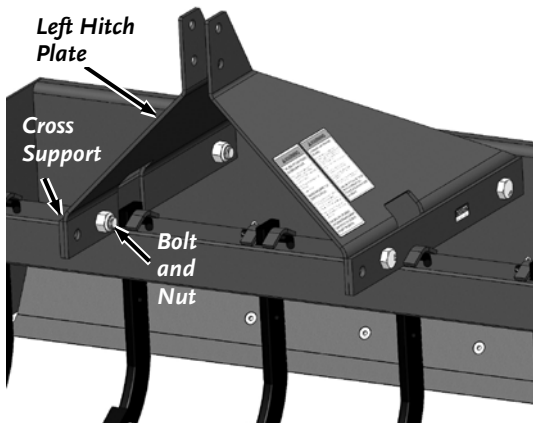

Figure 7
4. Place the Left Hitch Plate on the inside of the cross support and loosely secure by hand to the Cross Support with two M24 Bolts and two M24 Nuts (**Figure 7**).